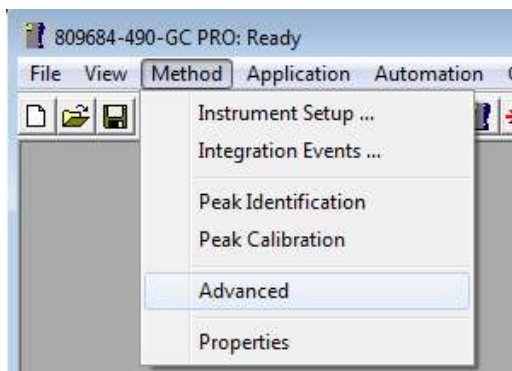

Figure 55: Open Method Advanced
- Select: Method\Advance, see Figure 55.